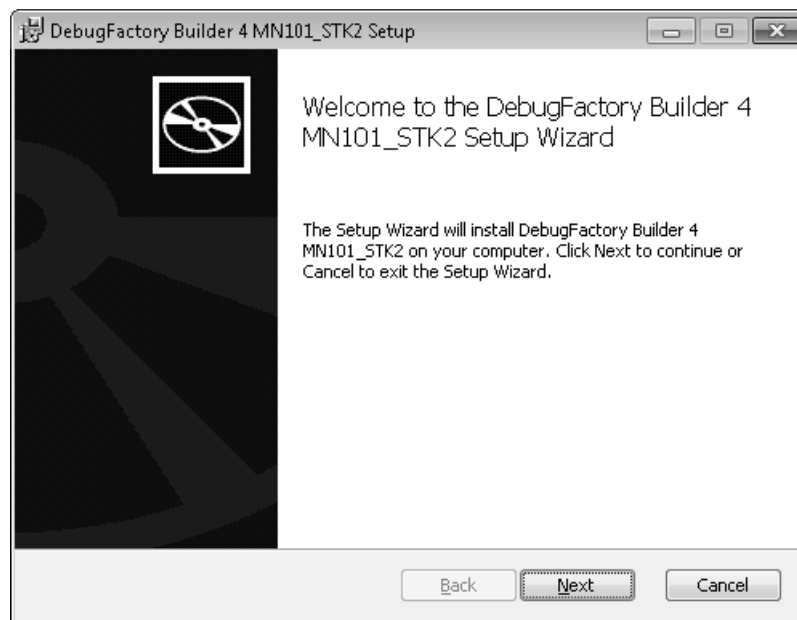

Figure 2.1.3 Starting of setting up DebugFactory Builder for MN101_STK2
3. After Setup program is started, the dialog shown in Figure 2.1.3 appears. Click <Next>.